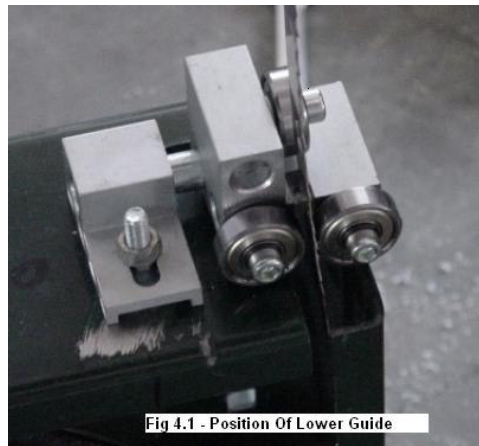

Fig 3.1 - Assembly of Mounting Plate & Screw
3. Assemble the lower guide mounting plate and M6 x 35mm socket head screw as shown (Fig 3.1 & 3.2) and fully tighten the screw.